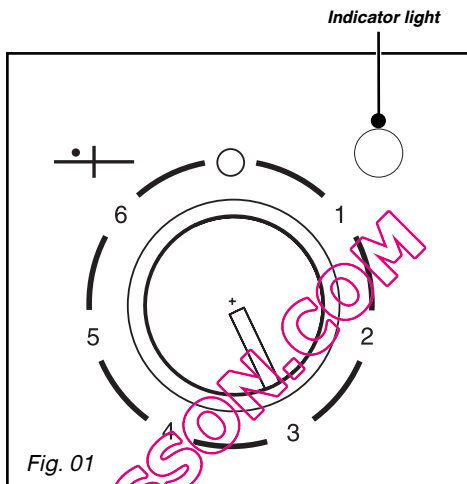

Fig. 01
– Adjust the ring of flames so that they do not extend beyond the edges of the cookware (Fig. 01).
Position the knob on the marking that corresponds to the desired type of cooking (Fig. 01) (see cooking guide at the end of this guide). The cooking zone’s power indicator lights up.